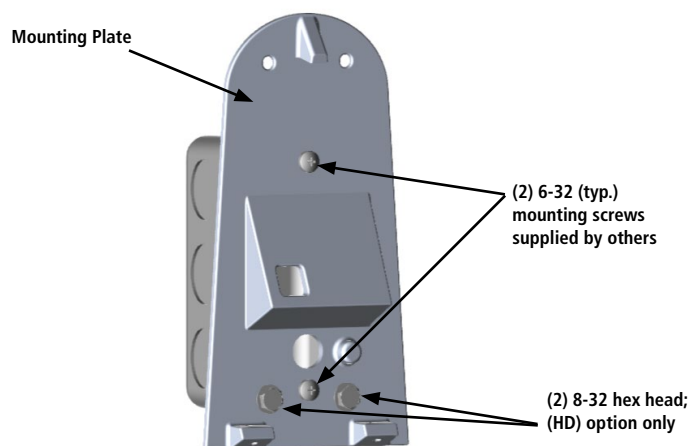

FIGURE 5
10. Attach mounting plate to junction box using (2) (typically) 6-32 screws (supplied by others). **See Figure 5.**